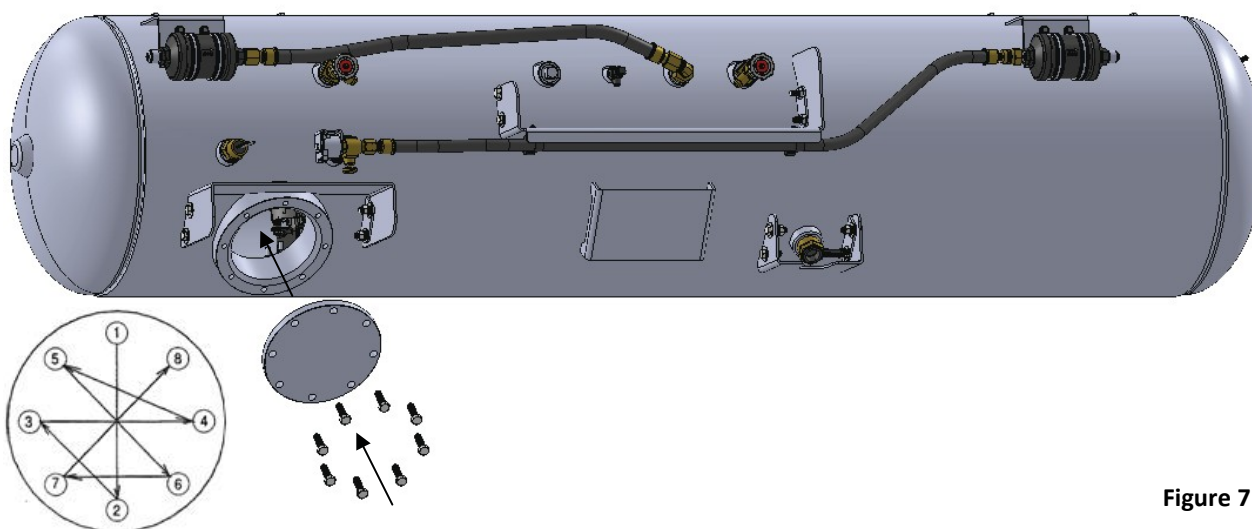

Figure 7
6. Inspect and clean access cover and tank flange for new o-ring installation. Install new access cover o-ring. Use motor oil to lubricate the o-ring in the access o-ring cover groove. Using Anti-Seize solution on the bolts, bolt the access cover onto the fuel tank. (**Torque: 33 ft-lb. - Utilize the torque sequence chart in the above figure**) (Figure 7) **TEST TI SEE IF THIS WORKS**